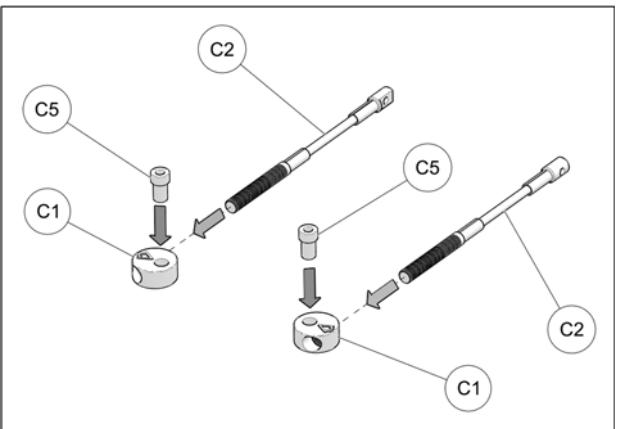

Fig. 19
- Assemble steering limiter cables (C2), aluminum disks (C1) and step spacers (C5) together as shown on Fig. 19